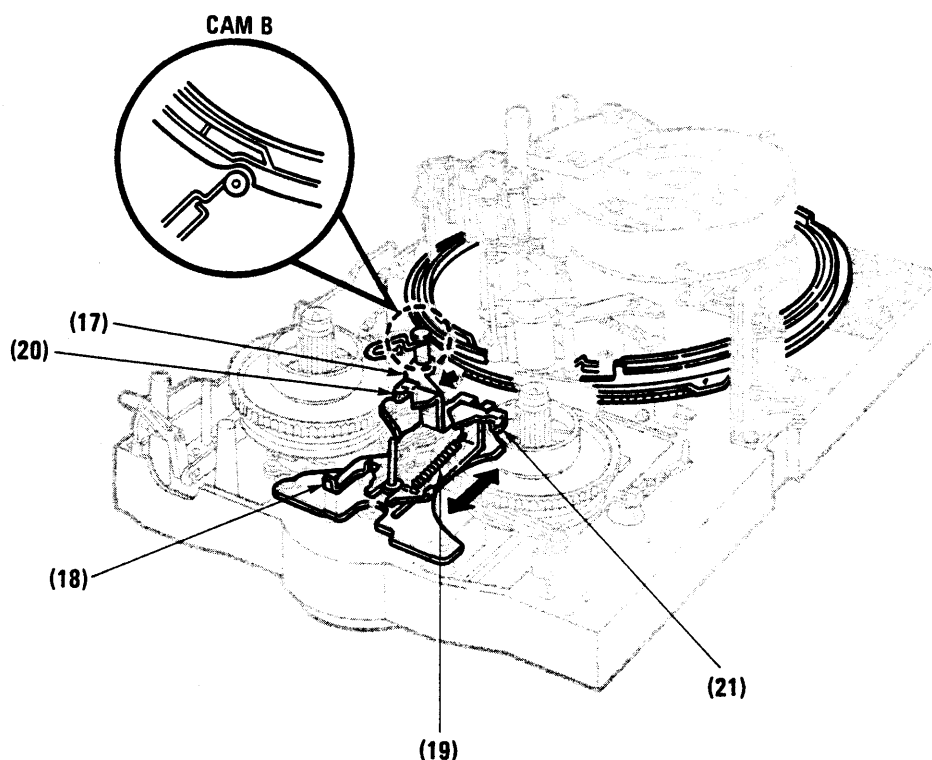

Fig. 3-3-8
[Structure] (See Figs. 3-3-8, 3-3-9.)
the circumference of the loading ring. Therefore, the mode select lever (17) swings because of the cam on the circumference of the loading ring and moves the mode select slide (18) back and forth in the direction indicated by the arrow. Also, the supply reel brake (20) and the take-up reel brake (21) are located on either end of the mode select slide (18), and the brakes are applied to the respective reel bases by the pulling force of the mode select spring (19). (See Fig. 3-3-8.)